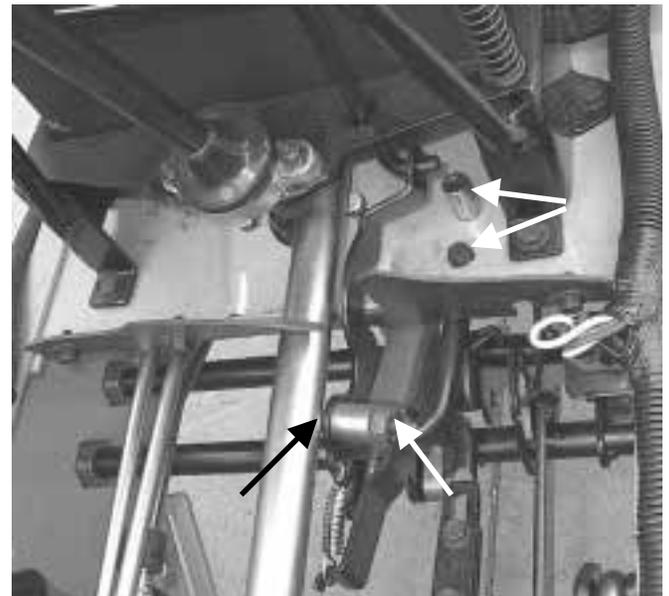

Figure 9
- Loosen the (2) bolts 710-0642 (1/4-20 x .75) that secure the cruise rod assembly to the frame. See figure 9 on next page.
- Loosen bolt 710-0106 (1/4-20 x 1.25) and lock nut 712-3027 (1/4-20) that secures the rod adjust bracket 703-3020 to the cruise latch. See figure 9. Lift the rearmost end of the rod adjust bracket until the cruise lever contacts the upper surface of the opening in the dash panel. See figure 5. Hold the rod adjust bracket in this position and lower the cruise latch. The cruise latch teeth should clear the cruise plate teeth by about .020 to .030. Tighten bolt and nut securely.